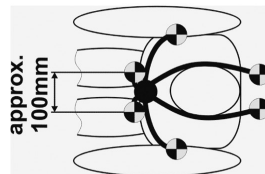

Figure 2
- a. Figures 2 and 3 show upright/forward mounting. Figures 5 and 6 show reclined/rearward mounting. Consists of a 2-inch or 3-inch lap belt, three-inch shoulder straps (2-inch allowed with HANS), and two, approximately 2-inch leg straps.